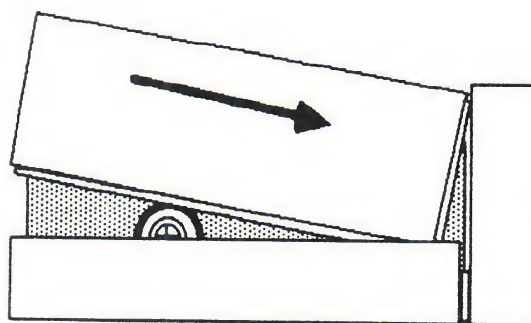

FIGURE 4
4. Slide the front edge of the cover against the front bezel as shown in Figure 4.